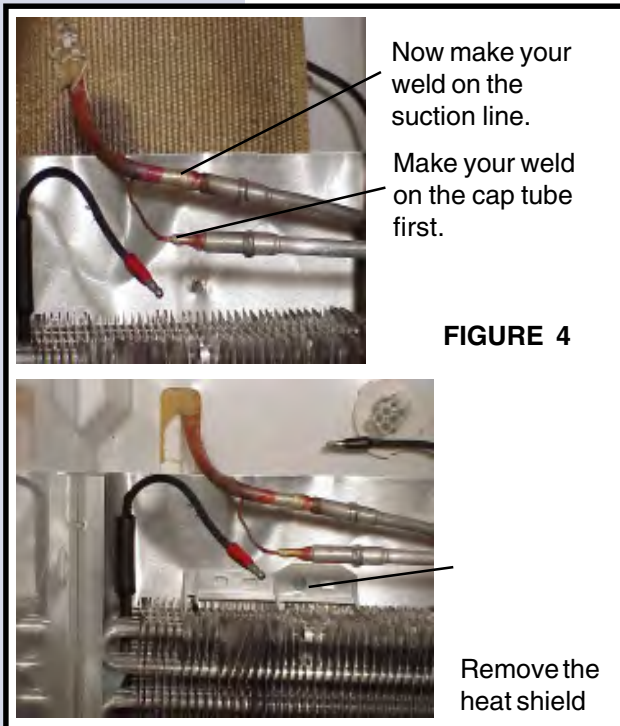

FIGURE 4
15. Push evaporator back in place and reinstall plastic clamp at top. (See Figure 4.) There is no need to replace the rivot.
13. The one piece cover can now be installed over heat exchanger. Place open end of cover with top of compressor compartment opening. Attach cover to back of cabinet using screws provided. There is no need to predrill holes as the screws are self cutting. (See Figure 4.)